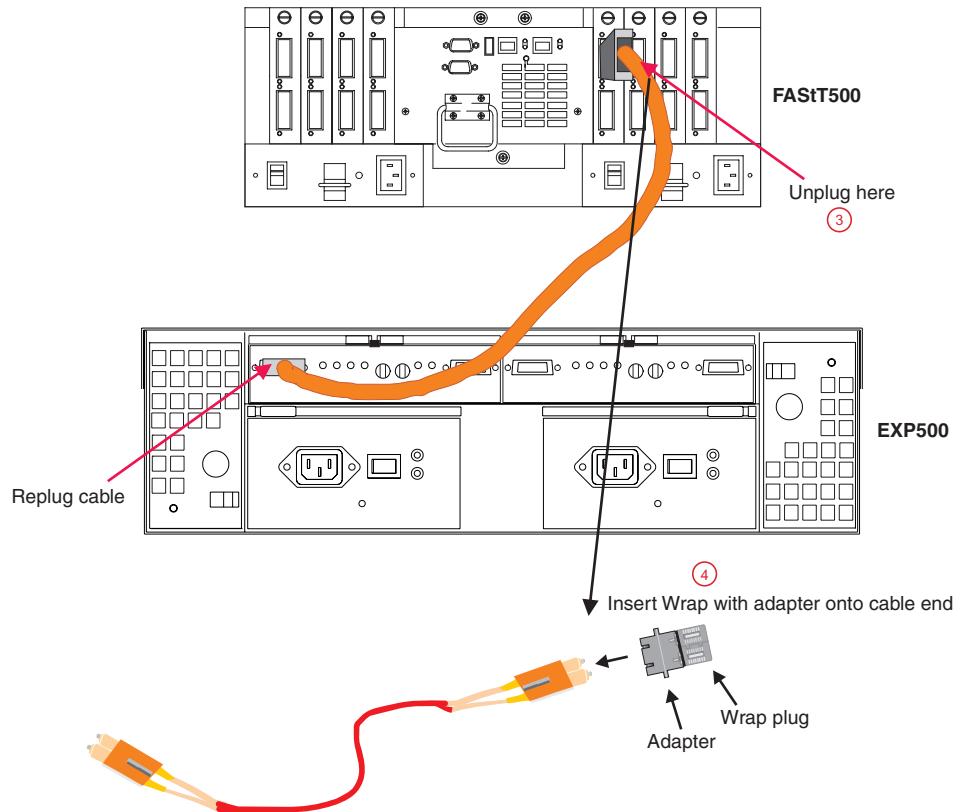

Figure 87. Insert wrap plug with adapter on cable end
4. Insert a wrap plug with an adapter onto the cable end. See Figure 87 on page 199.